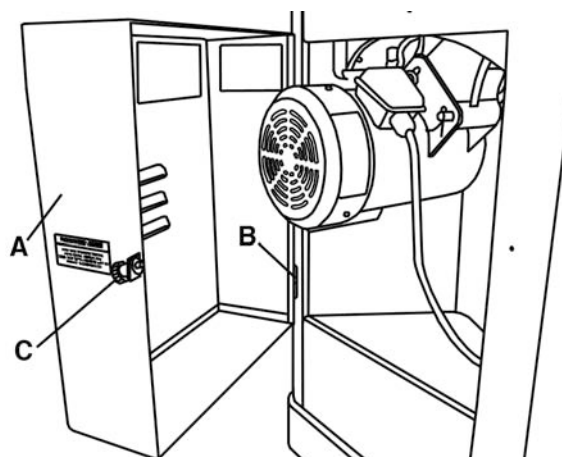

FIGURE 5
To prevent air born saw dust, the motor access door (A) Fig.5 should be installed to the cabinet. Slide the motor access door hinge pins (B) into the hinge supports in the cabinet. Swing and close the access door and lock it into place using the supplied lock knob (C).